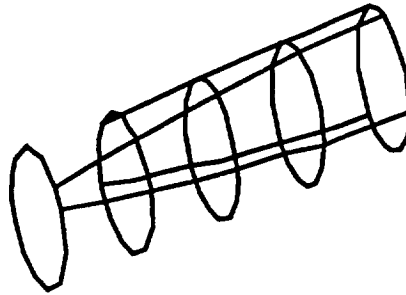

FIGURE C.30. Step 8 of lesson 2 adds wing-connection breaks to the tip-fitting.
- Notice that breaks for the tip fin are missing from the first assembly. Fix this problem by setting the tolerance to a bigger number,.005 or greater. Select *add wing-connection* from the Breaks menu. Before continuing, check to see that your screen looks like figure C.30.